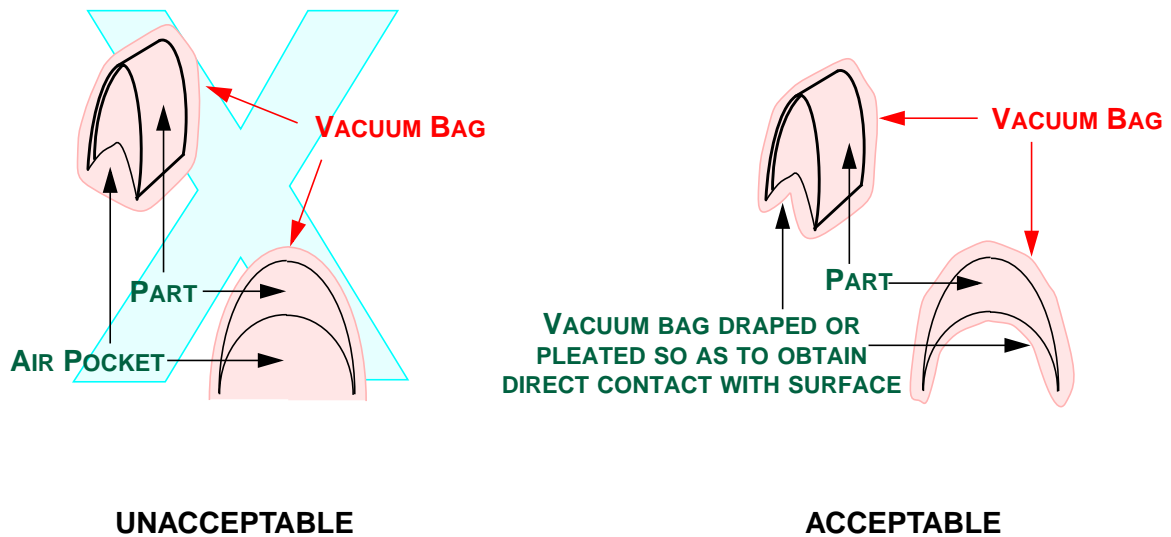

FIGURE 10 - VACUUM BAGGING ENTIRE PARTS
- Step 11. Cover the outermost layer of breather cloth or the heat blanket with vacuum bagging film and work the edges firmly into the vacuum bag sealant. Apply additional vacuum bag sealant in areas where the vacuum bagging film has been doubled or pleated. If vacuum bagging the whole part, pleat or drape the vacuum bag onto the part such that it makes direct contact with the entire surface without leaving any air pockets as shown below so as to avoid collapsing the part as shown in Figure 10.